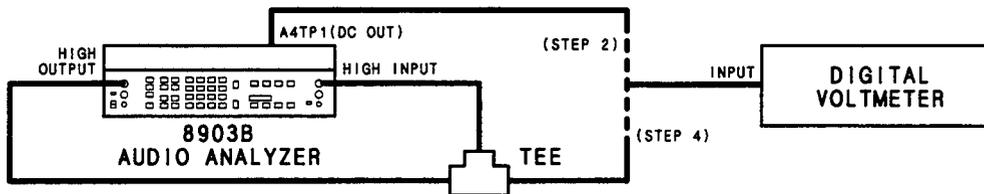

Figure 5-4. Voltmeter Adjustment Test Setup
2. Connect the equipment as shown in Figure 5-4. Connect the voltmeter to A4TP1 (DC OUT).
4. Connect the voltmeter to the HIGH INPUT of the Audio Analyzer as shown in Figure 5-4. Set the voltmeter to read ac volts. On the Audio Analyzer, set the MEASUREMENT mode to AC LEVEL.